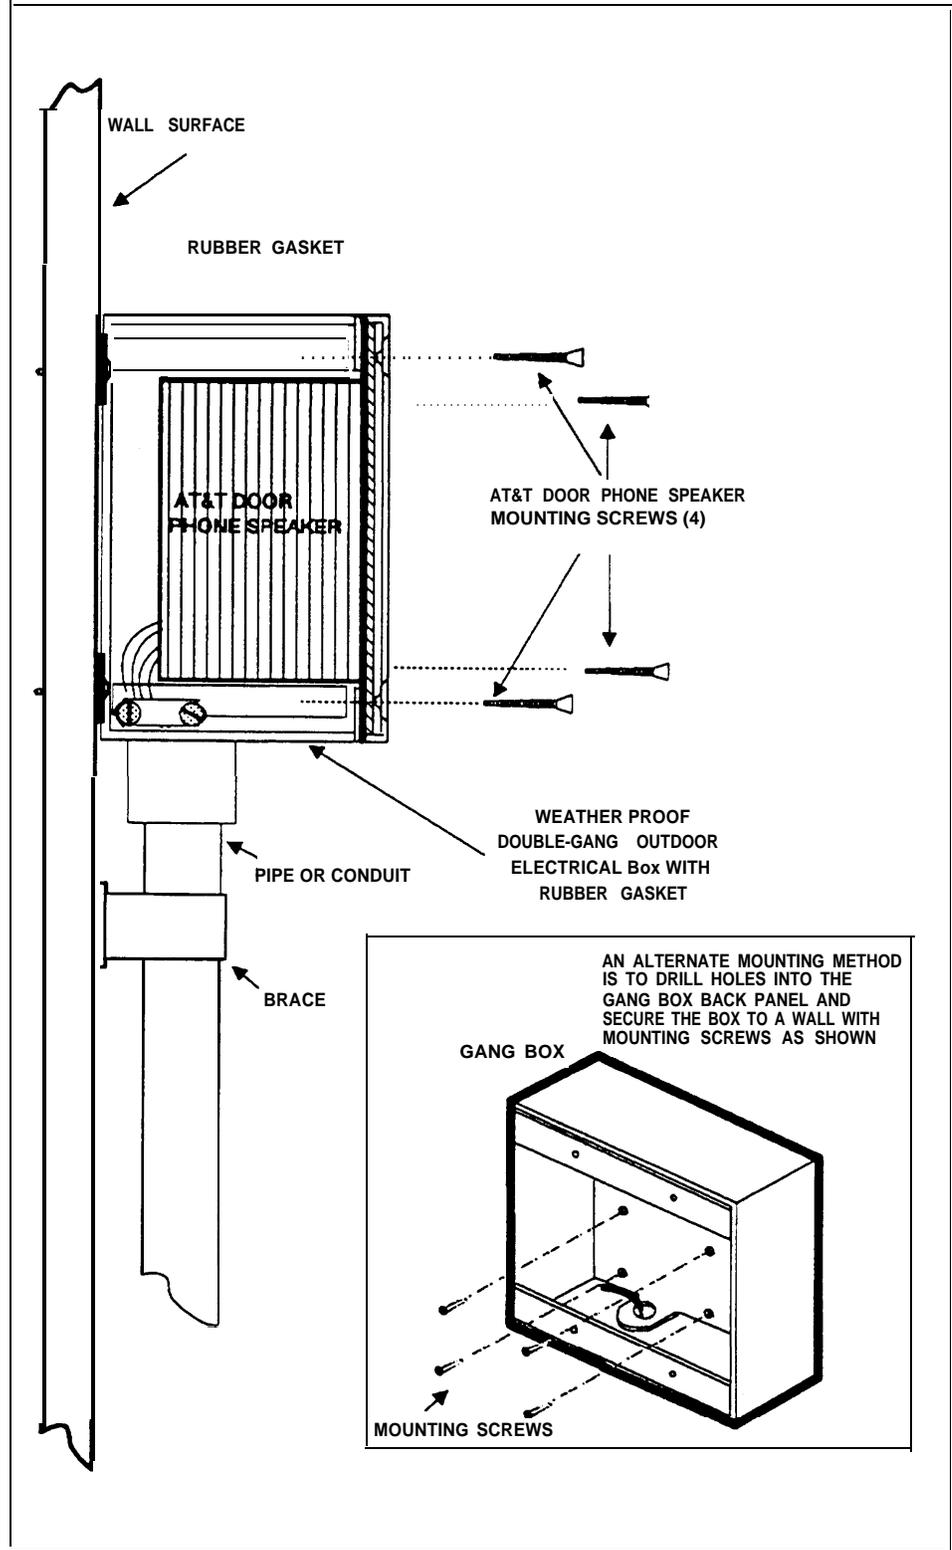

Figure 2-2. Surface Mount Installation
The AT&T Door Phone Speaker can be mounted to virtually any type of surface or wall. Those surfaces that are too hard or difficult to cut through require the unit to be surface mounted (device installed so it is completely external to the wall surface). Wall surfaces such as wood or drywall often are hollow and allow wiring to be run within the wall. Mounting the AT&T Door Phone Speaker unit to non-solid surfaces is often preferred because the unit can be flush mounted so only the face plate is exposed. Refer to Figures 2-2 and 2-3 for flush-mount and surface-mount double-gang outlet box installations.
There are two surface mount methods to secure the AT&T Door Phone Speaker gang box to a wall. The first method utilizes mounting brackets. The gang box mounting brackets (included) can be screwed to the gang box back plate so they protrude out the sides of the gang box. Using the appropriate screws (depending on the material the wall is made of), position the screws through the bracket holes and using a screwdriver secure the gang box to the wall surface (see Figure 2-2).
Another method to attach the gang box to the surface of a wall, which is more secure and provides an aesthetically pleasing look, is to drill mounting holes (4) directly into the back of the gang box. Using the appropriate screws (depending on the material the wall surface is made of) position the screws through the inside of the gang box and using a screwdriver secure the gang box to the wall (see Figure 2-2).